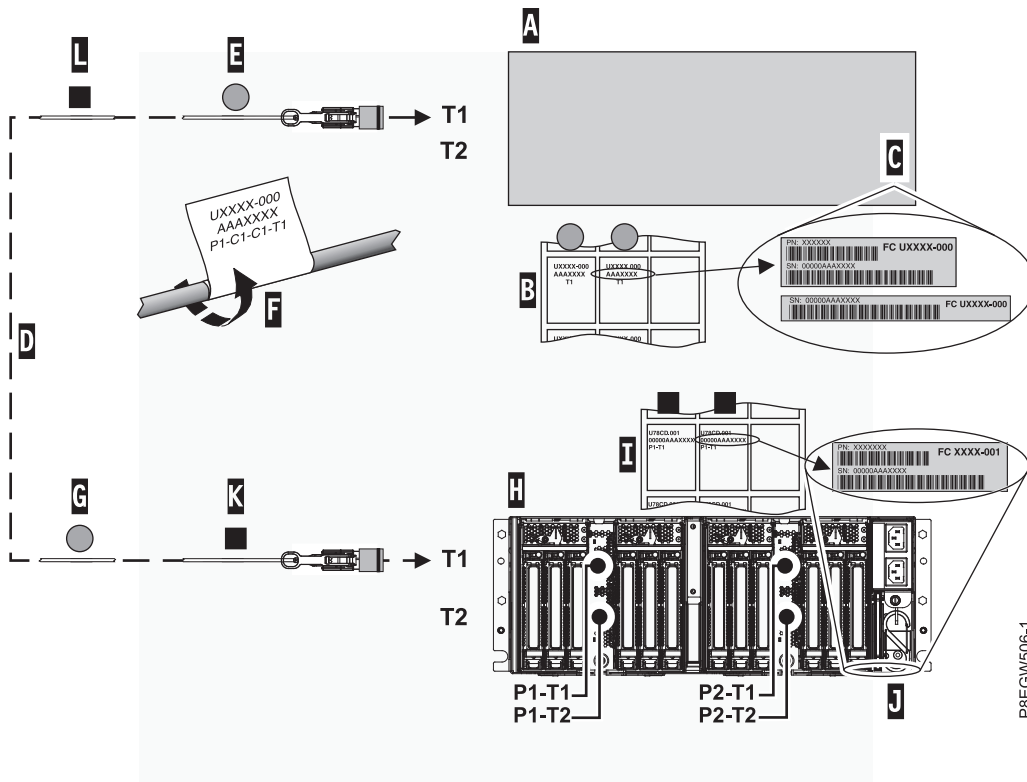

Figure 17. Labeling an active optical cable
Note: While you are completing these steps, refer to Figure 17 on page 22 as a reference.
- g. Attach the leftmost Cx-T1 label to the connector end of the cable **(E)**. See Figure 17 on page 22. Wrap the label with the blank end first so that the location information **(F)** is visible.
- h. Take the second label Cx-T1 from the host system label sheet **(B)** and place it on the opposite end of the cable that attaches to the EMX0 PCIe3 expansion drawer. Ensure that the label is placed more than 100 mm (4 in) from the end of the cable **(G)**. See Figure 17 on page 22.
Note: While you are completing these steps, refer to Figure 17 as a reference.
- a. Locate the EMX0 PCIe3 expansion drawer (H) that you are connecting to the host system.
- b. Locate the EMX0 PCIe3 expansion drawer serial number label sheet (I).
- c. Match the EMX0 PCIe3 expansion drawer serial number (J) to the serial number shown on the EMX0 PCIe3 expansion drawer label sheet (I).
- f. Attach the leftmost Px-T1 label to the connector end of the cable (K). See Figure 17. Wrap the label with the blank end first so that the location information (F) is visible.
- g. Take the second Px-T1 label from the expansion drawer label sheet and place it on the opposite end of the cable greater than 100 mm (4 in) from the end of the cable (L). See Figure 17.